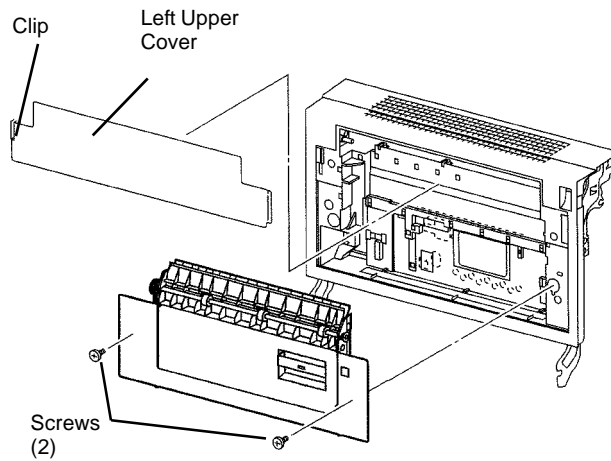

Figure 1 Removing Duplex Transport Assembly
1. Remove Duplex Transport Assembly (Figure 1).